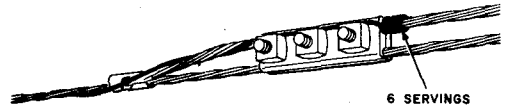

Fig. 7—Terminating 065 and 091 Lashing Wire at Deadends and Strand Connectors
5.03 At dead-ends and strand connectors, take the lashing wire to the end of the clamp nearest the pole or connector and make six servings around the strand as shown in Fig. 7.